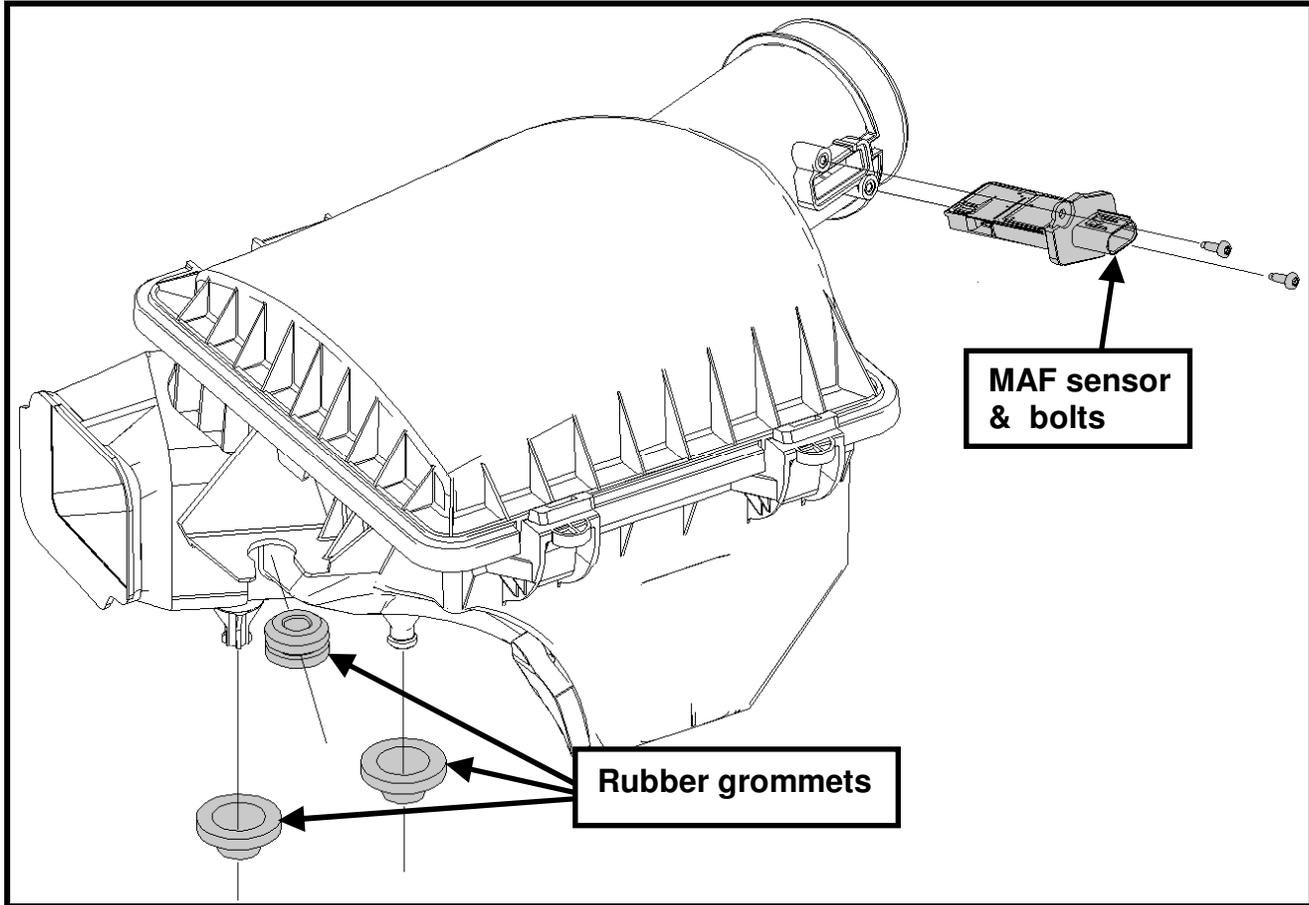

Fig. 3
**STEP 5:** Remove the three grommets, MAF and MAF bolts from the factory airbox (See Fig. 3).